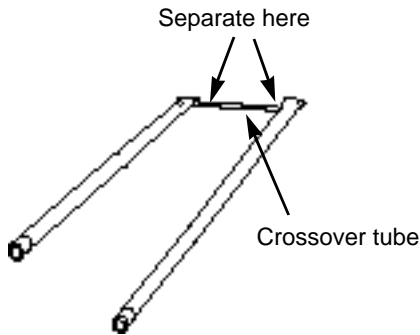

Figure 14
13. Lift and twist the burner assembly slightly to separate the crossover tube from the burners. Remove the burners from the cooking box. Figure 14.